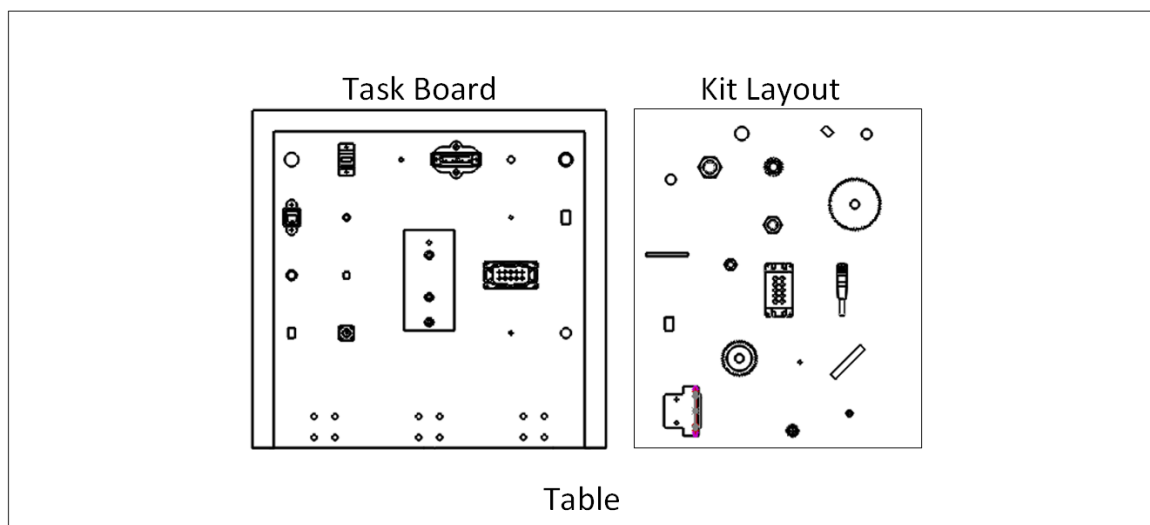

Figure 3: Layout for subtask 2
- 1) Team fixes location or judge randomizes location (for bonus points) of disassembled (empty) task board on table (see Figure 3)